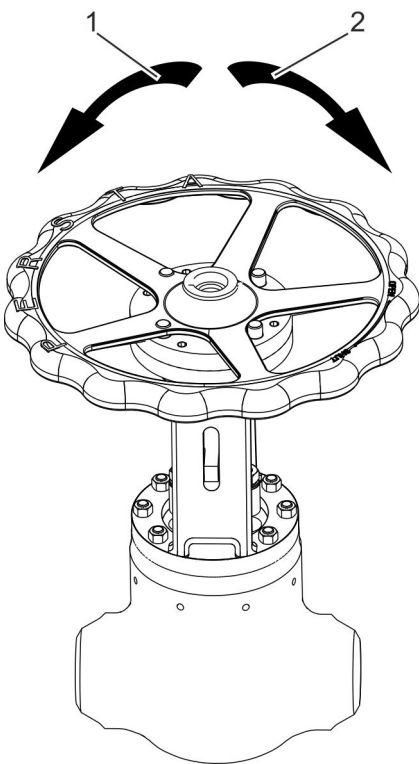

Fig. 14: Valve: Top view
1. ➤ Fully open the valve by turning the handwheel counterclockwise (Fig. 14/1).
2. ➤ Fully close the valve by turning the handwheel clockwise (Fig. 14/2).